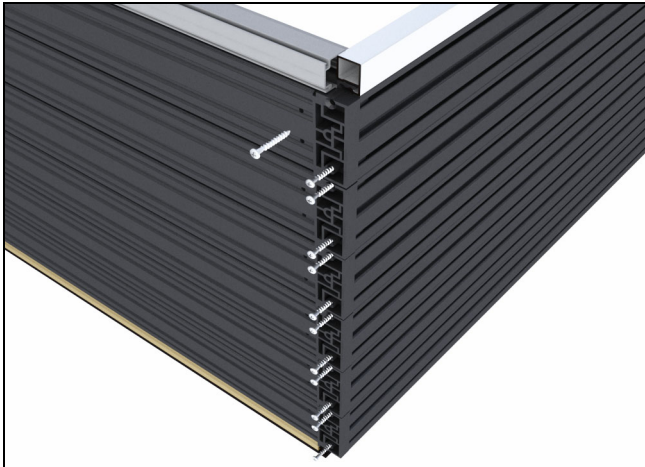

Figure 33
- Align side jamb to sill by sliding corner keys into sill. Fasten side jamb and sill through corner keys using two #8 x 1 3/4" pan head screws per key. See figure 33.